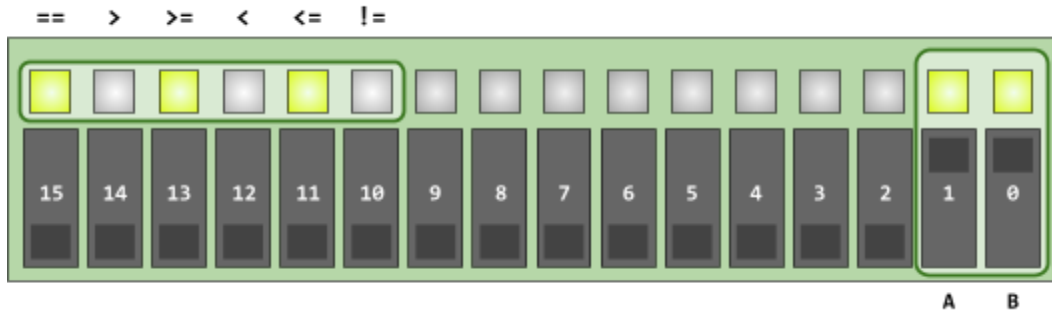

Figure 2. Input/Output Configuration for Part 2
Our FPGA now computes  $G (>)$  and  $E (==)$  and displays these results on the two leftmost LEDs. In this section, we will use these two signals to derive the remaining four relational operators: not-equal-to ( $\neq$ ), greater-than-or-equal-to ( $\geq$ ), less-than-or-equal-to ( $\leq$ ), and less-than ( $<$ ). All six comparison operators will be displayed on the Nexys board, as shown in Figure 2.
- c. Connect the signals to the corresponding LEDs, as shown in Figure 2.